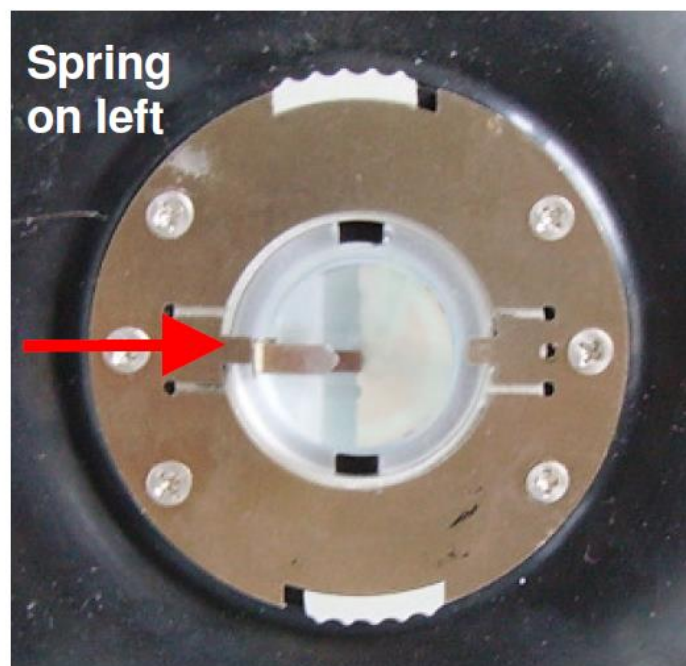

Figure 7: Zooming in to the direction that the cantilever holder should be in.
-Step 4: Place glass cantilever holder into AFM Head Unit with cantilever facing up, then turn cantilever holder to the right a quarter turn. The cantilever and cantilever holder should look like Figure 7. Secure the cantilever holder with the locking clips.